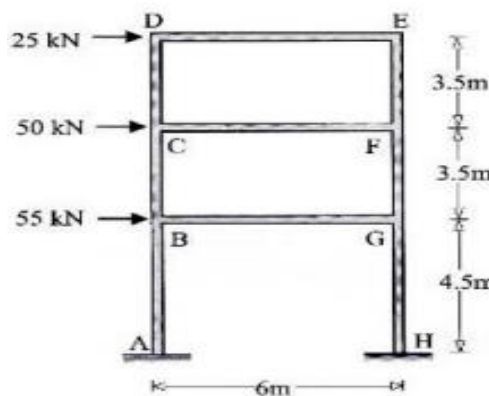

Figure.1
- 4 State the assumptions made in Cantilever method of frame analysis and analyze the frame as shown in Figure 1. by Cantilever method of analysis. Draw the bending moment diagram.